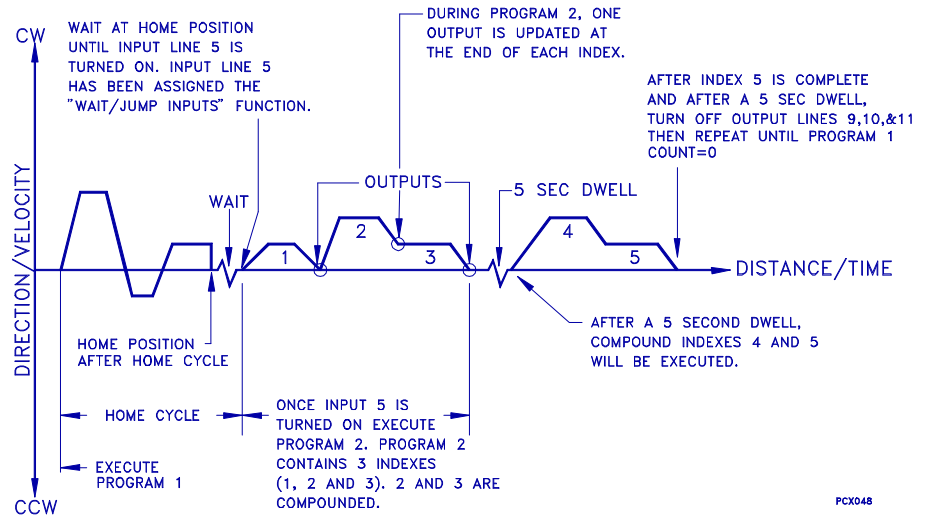

Figure 13 Motion Profile Of Example Program
You may use any index or program which you have previously created to build your program. The example motion program shown in Figure 13 could be accomplished with one program; however, two programs have been used to show the use of the Call Program (P) function. In this example, program numbers 1 and 2 are used and index numbers 1, 2, 3, 4, and 5 are used.